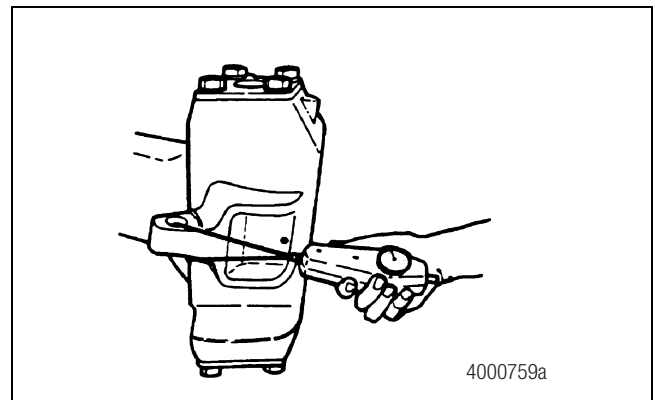

Figure 6.8
- A. Fasten a soft wire or cord to the tie rod arm. Attach a pound scale to the opposite end of the wire or cord. Hold the outer shaft of the universal joint away from the knuckle opening and pull on the pound scale to rotate the knuckle. Read the pounds on the scale. Read the pull necessary to rotate the knuckle, not the pull necessary to start the movement. Figure 6.8.